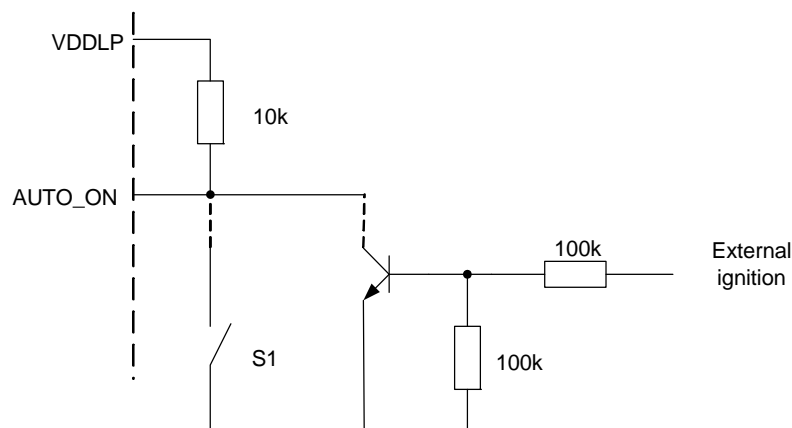

Figure 35: AUTO_ON circuit sample for controlled module switch-on
- Figure 35 for a controlled module switch on. Here, it is recommended to use a 10kΩ pull up resistor at the AUTO_ON pad. The 10kΩ pull up resistor may be required in an electrically noisy environment.
In case the AUTO_ON signal is permanently connected to ground (see Figure 35, S1 set to low level) the module will start up if the operating voltage BATT+ is applied with a rise time of less than 1 millisecond between 2.5V to 3.2V.